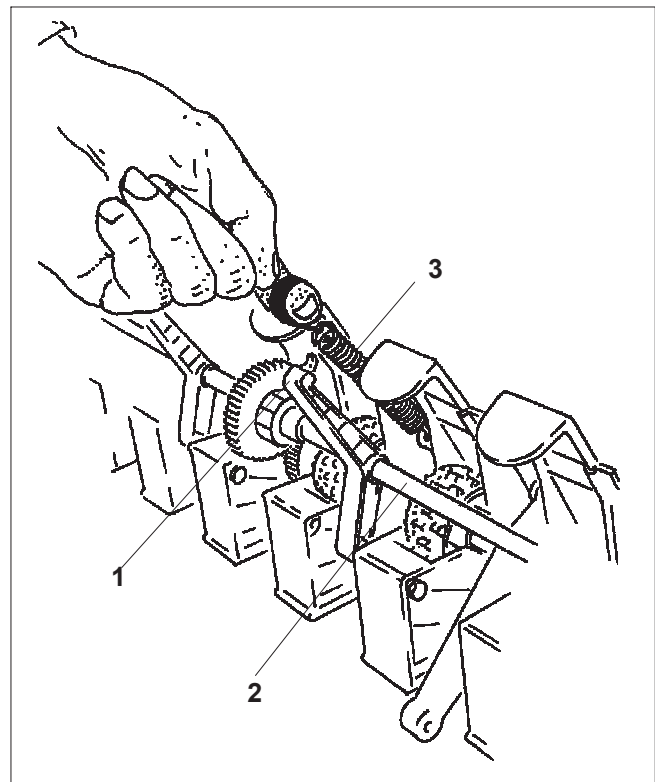
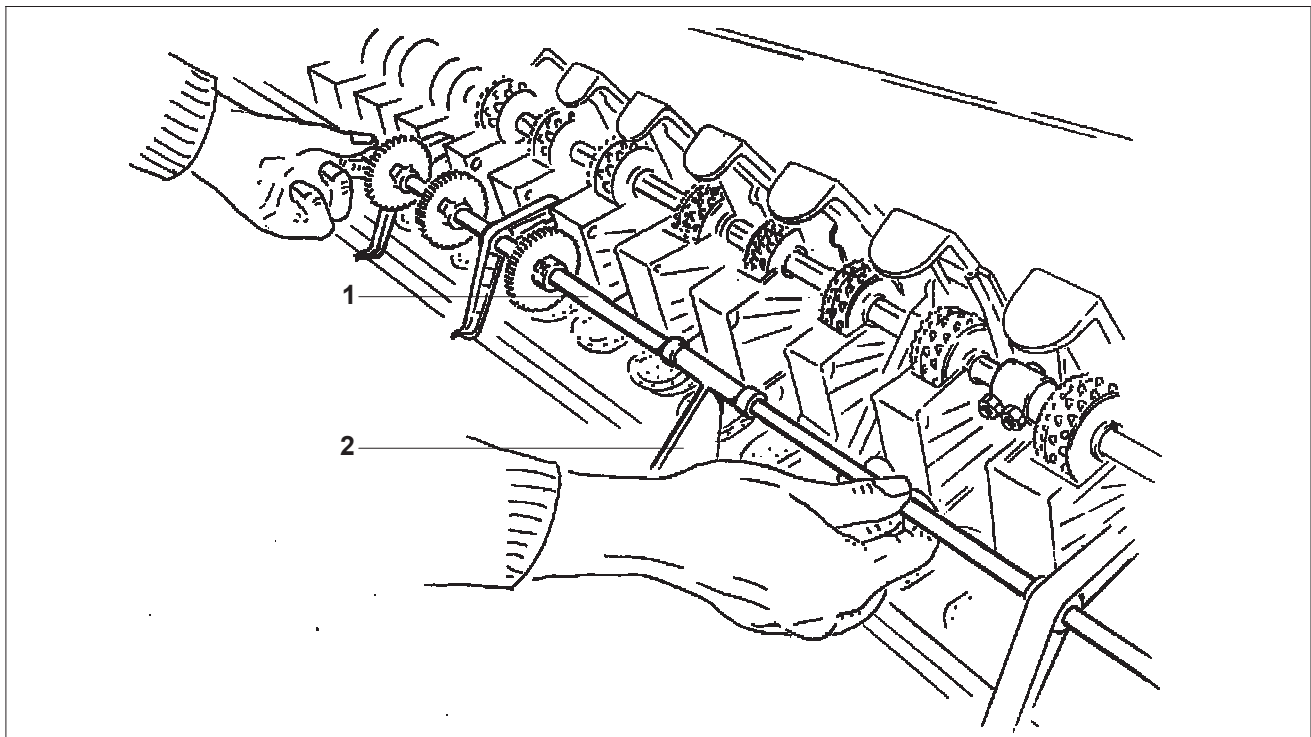

Fig. 18.23
Fig. 18.24
- The swivel bearings (Fig. 18.23/1) of the lay shaft (Fig. 18.23/2) are sprung pivoted. Remove the tension springs (Fig. 18.23/3) and fold down the lay shaft (Fig. 18.24/1). At the same time, a bracket (Fig. 18.24/2) that secures the lay shaft in an axial position extracts from the recess of a seed housing.